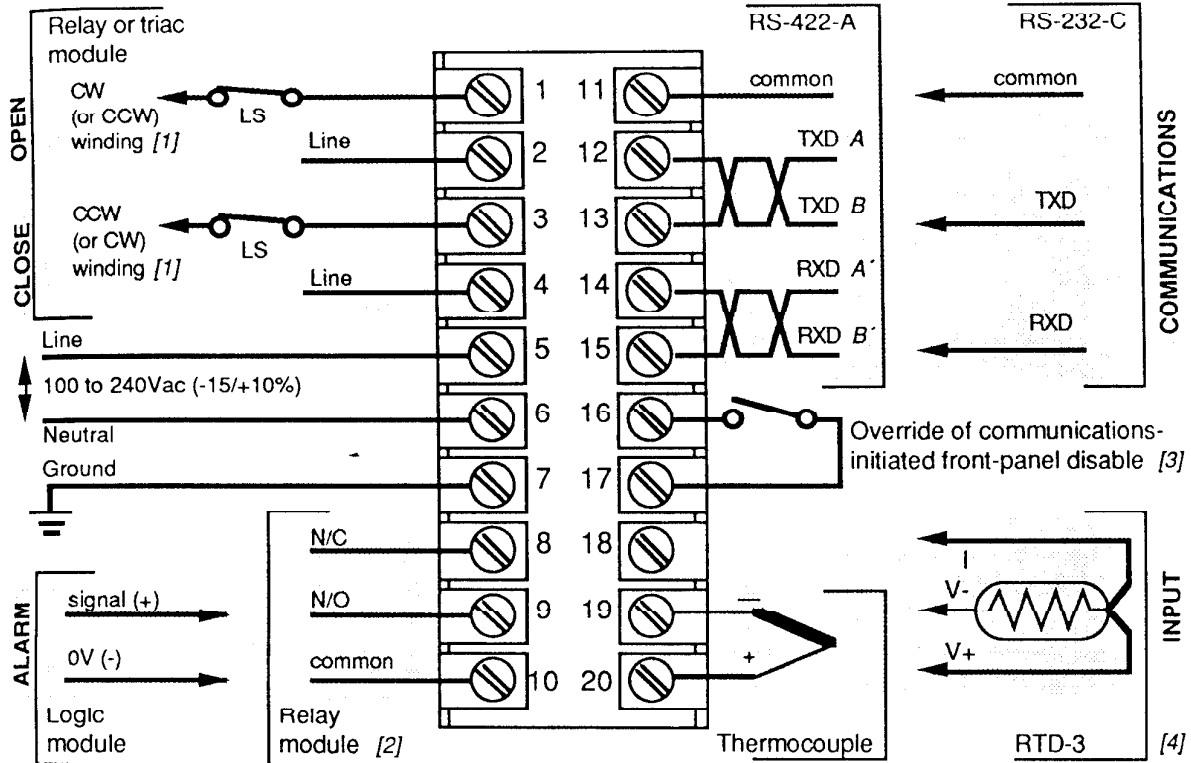

Figure 3.1. Models 009 and 049 external connections.
- Refer to Figure 3.1 and to Tables 3.1 through 3.5 for rear terminal designations and for wiring the power, outputs, and signal inputs.